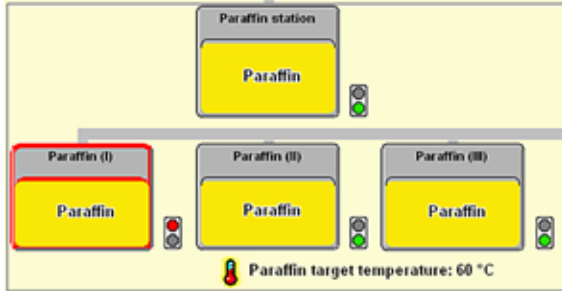

Fig. 42
- If a paraffin bath has been pulled out, this is indicated by a red border (Fig. 42) and the signal light next to the bath turns red. Each signal light also turns red if the configured temperature is not reached or the melting time has not yet ended.